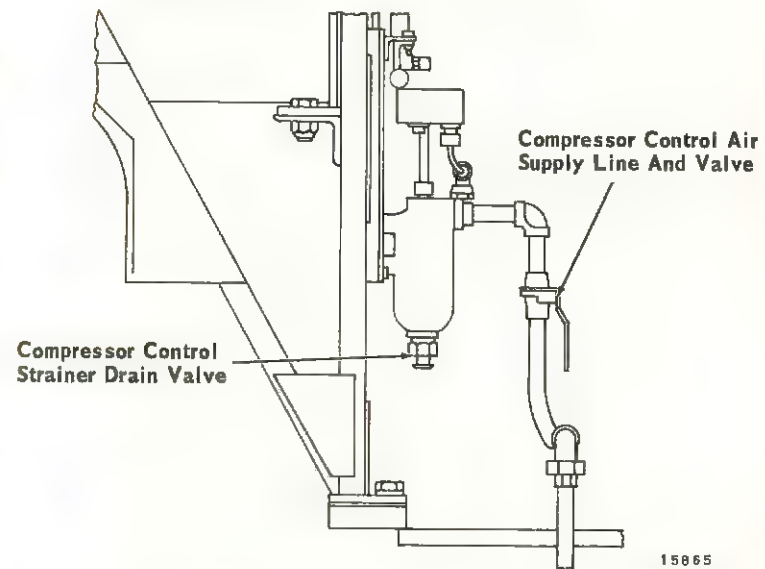

Fig. 3-6 — Compressor Control Strainer Drain Valve
3. Press up on the pushbutton at the base of the compressor control strainer drain, Fig. 3-6.